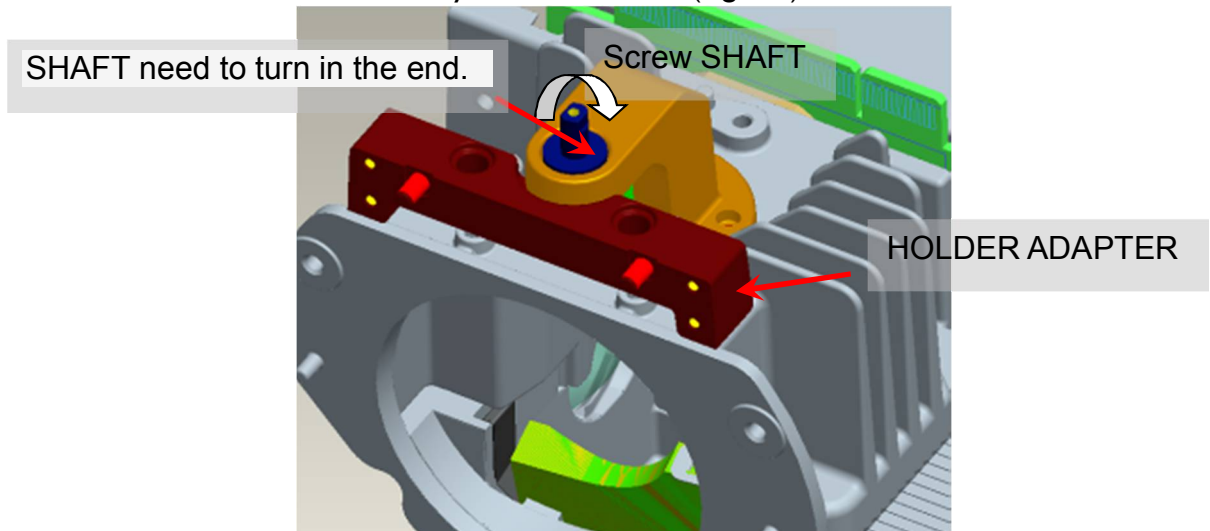

Fig. 6-5
- E. Assemble “HOLDER ADAPTER” by “SHAFT” screw. (Fig. 6-5)